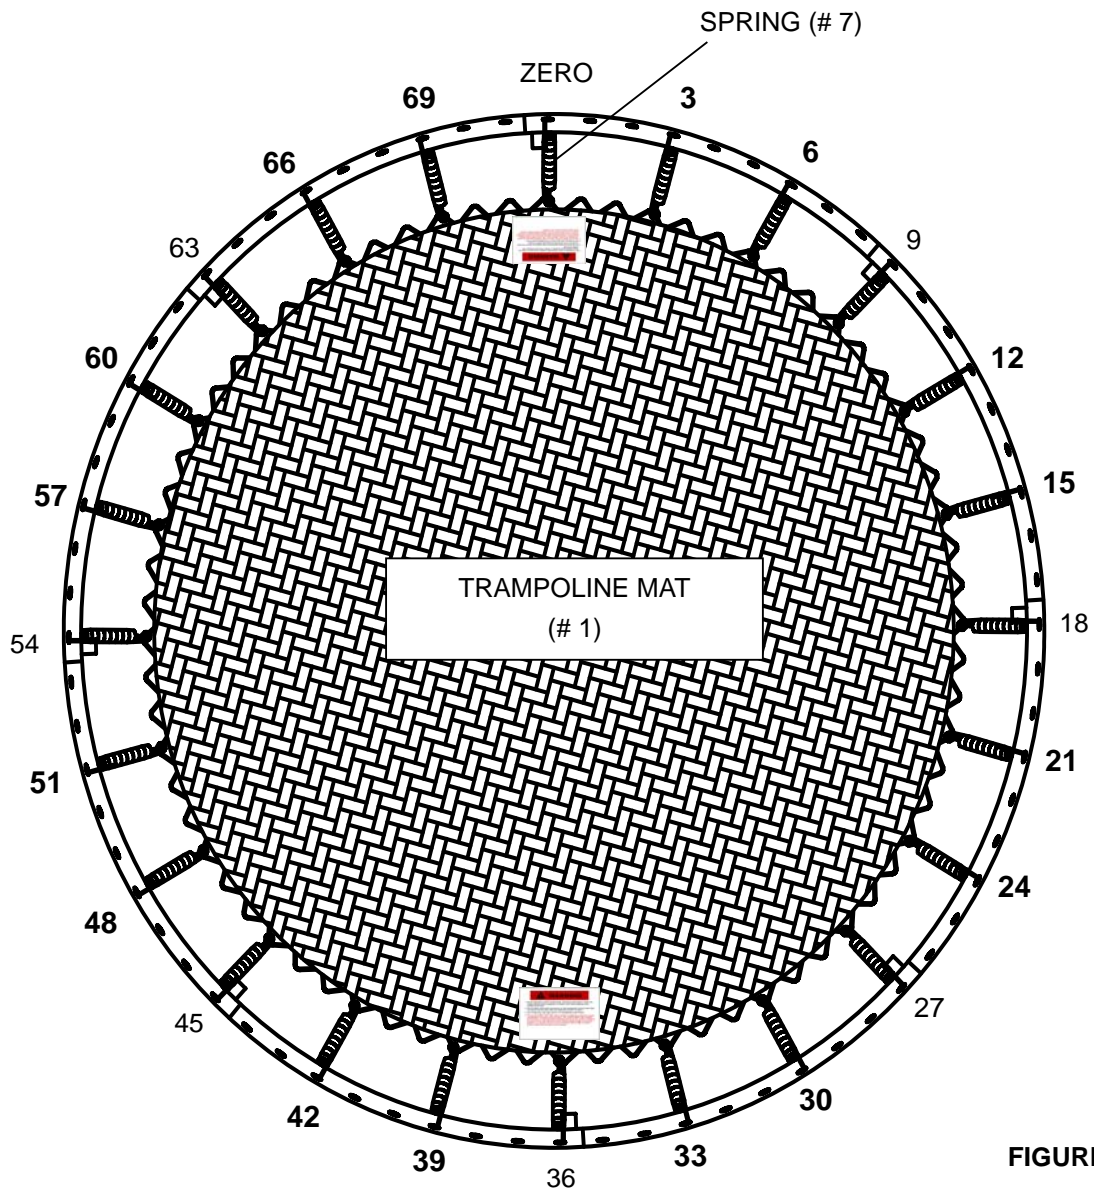

FIGURE 9
E. Attach a spring every 3 holes and corresponding Triangle-Ring. For even distribution of tension and ease of assembly, springs should be placed on opposite sides of the mat/frame.....i.e. 3 then 39, 69 then 33, etc. In addition to the previously installed, you should have springs at 3, 6, 12, 15, 21, 24, 30, 33, 39, 42, 48, 51, 57, 60, 66 and 69 as shown in FIGURE 9.